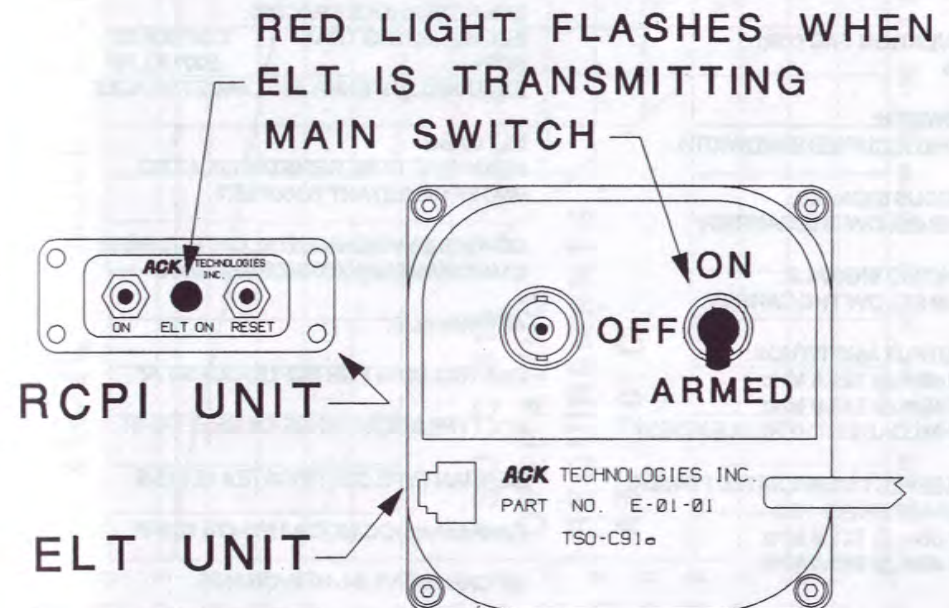

FIGURE 12
2. PRESS THE "ON" BUTTON ON THE RCPI UNIT (SEE FIGURE 12) VERIFY THAT THE RED LED FLASHES. VERIFY THAT THE AUDIO SWEEP TONE CAN BE HEARD ON THE COM RECEIVER. PUSH THE "RESET" BUTTON ON THE RCPI UNIT. THE LED SHOULD STOP FLASHING AND THE AUDIO SWEEP TONE SHOULD STOP.
THE RED LED ON THE RCPI WILL FLASH ON AND OFF INDICATING THE ELT IS TRANSMITTING SHOULD THE ELT BE ACCIDENTLY ACTIVATED BY TURBULENCE, HARD LANDING, ETC. SHOULD THIS OCCUR UNDER ANY CONDITIONS OTHER THAN AN ACCIDENT REQUIRING IMMEDIATE ASSISTANCE, THE ELT SHOULD BE RESET BY PRESSING THE "RESET" BUTTON ON THE RCPI UNIT. (SEE FIGURE 12) IF THE AIRCRAFT IS ON THE GROUND AND THE "RESET" BUTTON DOES NOT CAUSE THE LED TO STOP FLASHING THE MAIN SWITCH ON THE ELT UNIT SHOULD BE SET TO THE OFF POSITION (SEE FIGURE 12). IF AIRBORNE AND THE "RESET" BUTTON DOES NOT CAUSE THE LED TO STOP FLASHING. THE MAIN SWITCH ON THE ELT SHOULD BE SET TO THE OFF POSITION IF THE ELT IS ACCESSIBLE. IF THE ELT IS NOT ACCESSIBLE IN FLIGHT YOU SHOULD LAND AT THE NEAREST SUITABLE AIRPORT AND SET THE MAIN SWITCH TO THE OFF POSITION. IN EITHER CASE THE UNIT SHOULD BE INSPECTED BY A QUALIFIED FACILITY AS SOON AS POSSIBLE. THE AIRCRAFT MAY BE OPERATED WITH THE ELT REMOVED FOR INSPECTION OR REPAIR SUBJECT TO THE CONDITIONS OF FAR 91.207.